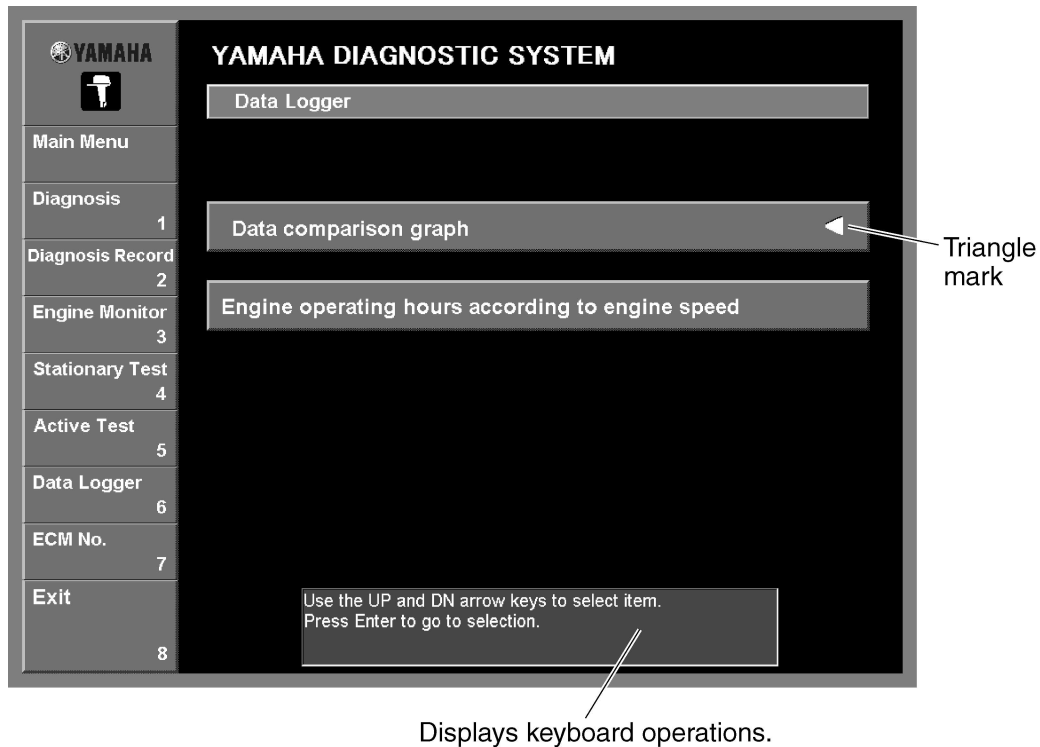

Fig. 53
1. Select the desired item by either clicking it or pressing the up or down arrow keys on your keyboard. (Fig. 53)
2. Press the Enter key on your keyboard. The window of the selected item is displayed. (Fig. 53)